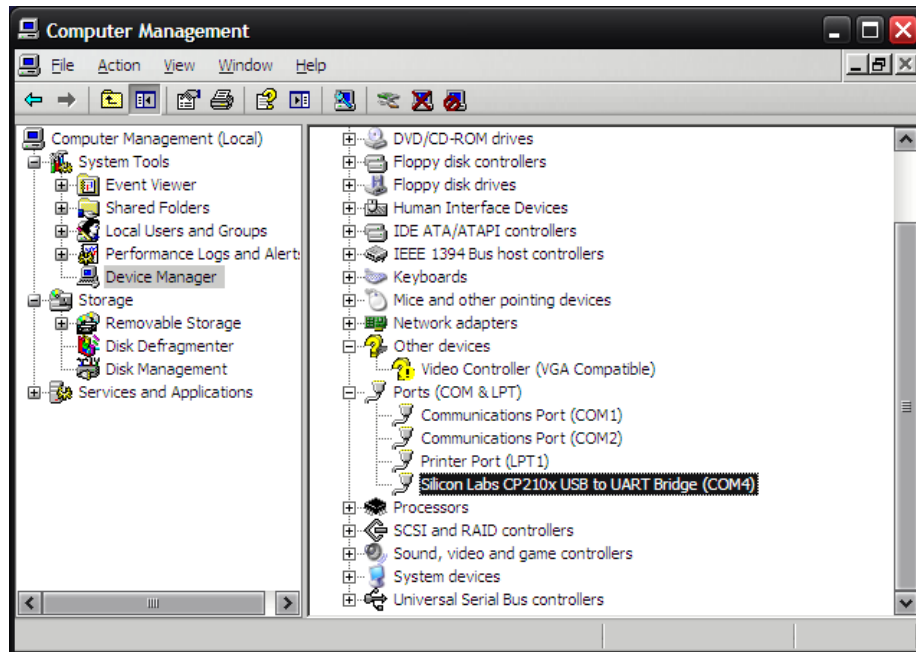

Figure 5: COM-port number
4. When using USB cable find out the COM-port number in Computer Management window (see fig. 5) You can specify another COM-port number (Properties>Port Settings>Advanced>COM Port Number).
8. Specify COM-port number (fig. 8) as it was determined in fig. 5. Click OK.